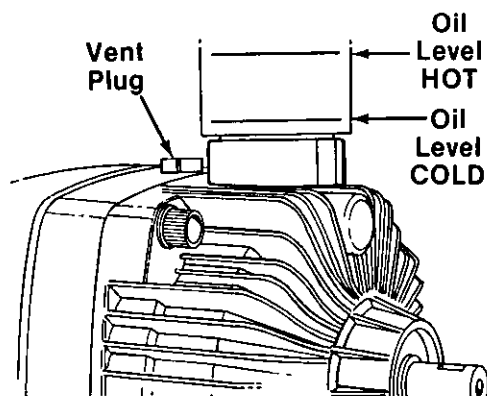

FIGURE 22.
The transmission fluid level should be checked prior to initial use. The level should not be above the COLD mark which is about ¼" from the bottom of the reservoir/expansion tank. See figure 22.
3. Check the oil level in the reservoir/expansion tank. See figure 22.
To fill the hydrostatic transmission, remove the vent plug located next to reservoir/expansion tank to prevent an air lock. Replace vent plug. See figure 22.